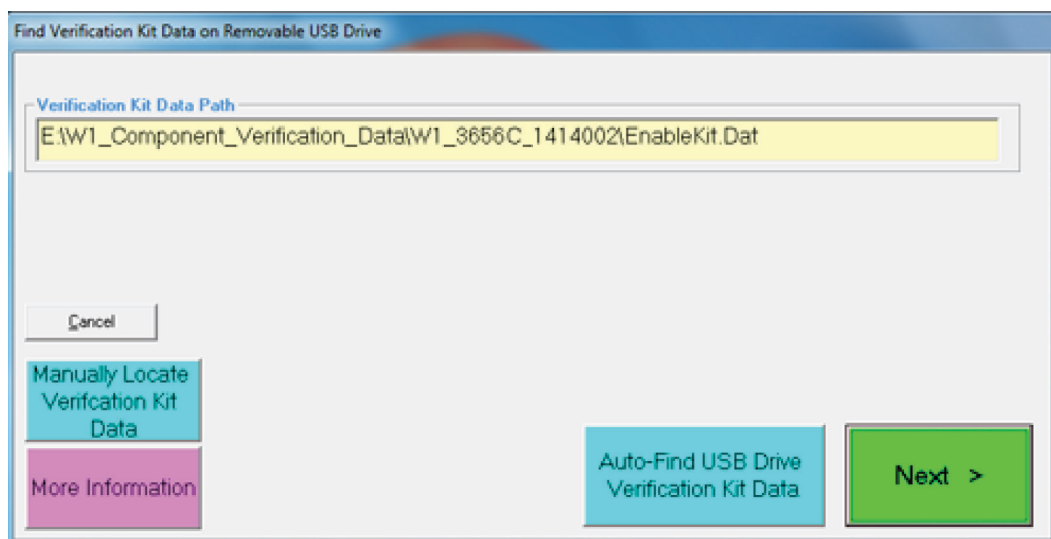

Figure 3-28. USB Drive Locator Dialog
10. When the Auto Find Verification Kit Data dialog box first appears in Figure 3-28, the Verification Kit Data Path text field is blank. Click the Auto-Locate USB Drive Verification Kit Data on PC button. The application automatically locates the verification kit data on the USB drive and displays the path in the Verification Kit Data Path text field.